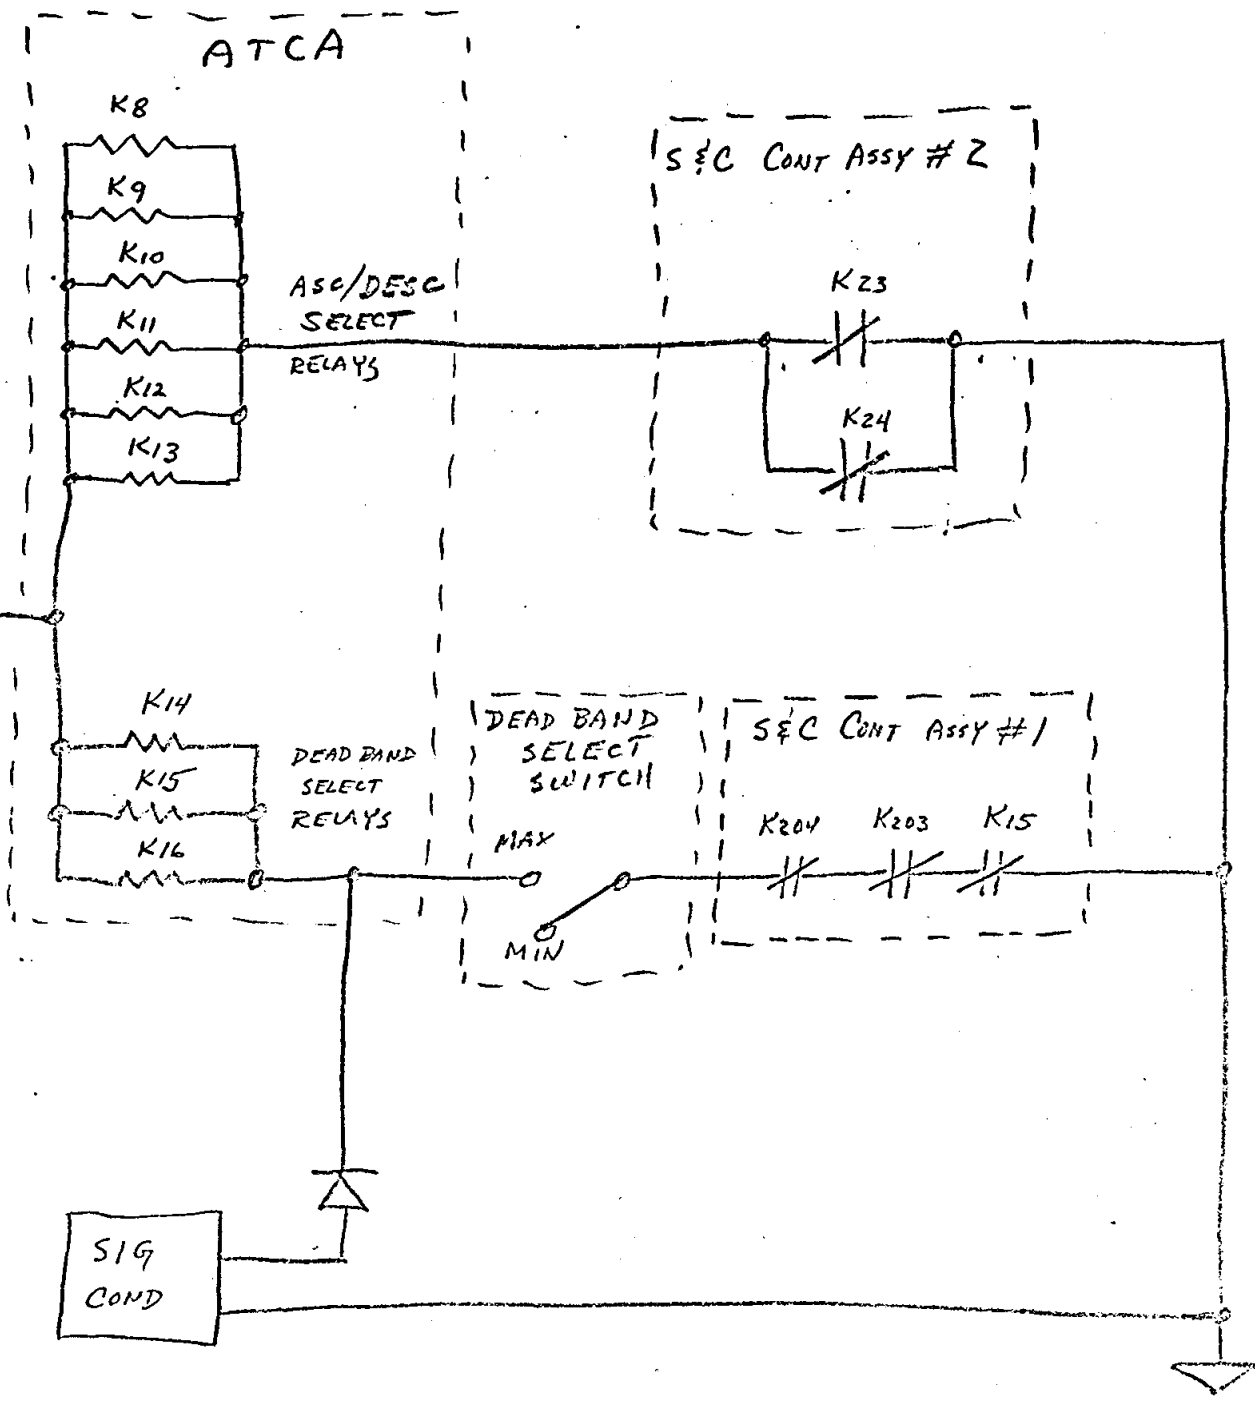

FIGURE 1
(1) Two additional glycol temperature measurements (GF2531 and GF2581) exist on the H₂O boiler input and output. They serve as adequate backup (telemetry only) for cooling loop status.
(2) Glycol Temperature (GF9998) is an input to C&WEA. The threshold for an alarm is whenever the temperature is greater than 50°F. Since the temperature is reading zero the alarm will not be actuated in this failure mode. Therefore there is no requirement to advise the crew of a false caution and warning master alarm.
(3) No change in mission plans is suggested for this problem.
b. MIN/MAX Deadband (GH 1603); Figure 1: This measurement (discrete) was reported to remain in the maximum mode when the crew switched from MAX to MIN deadband. Two possible causes exist
(1) Failure of the deadband select switch.
(2) SCEA conditioner indicated no change of state because ATCA was not powered up. Reference to Figure 1 indicates a relatively low resistance path through the diode and around the deadband select switch when the ATCA is not powered up (4CB82 open). When the ATCA is powered up the diode is back biased so the sneak circuit does not exist.